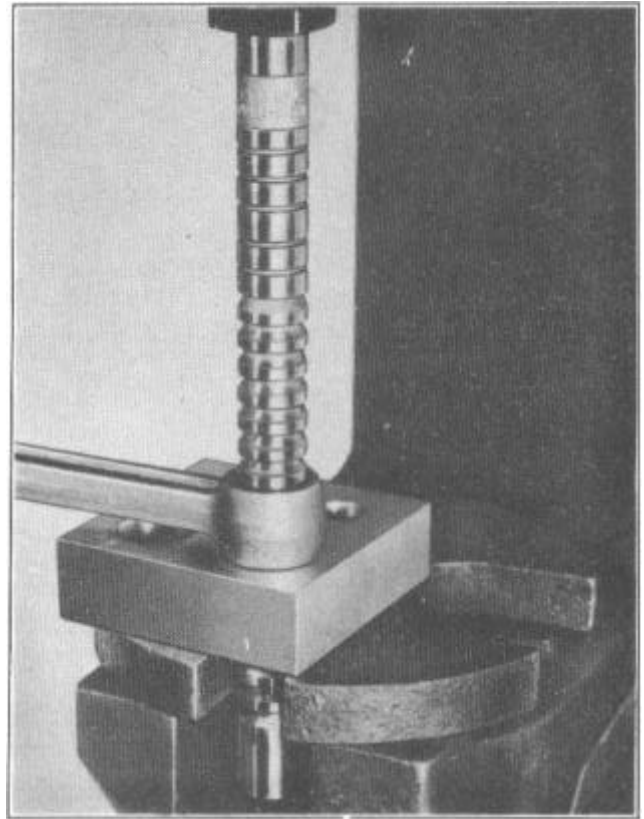

FIGURE 31
3. After bushing has been pressed into the rod, use Burnisher Block J-2950, 6 cylinder and J-2951, 8 cylinder and with J-2791 Burnisher and Broach 6 cylinder and J-2949 Burnisher 8 cylinder iron the bushing in place in the rod, Figure 31.